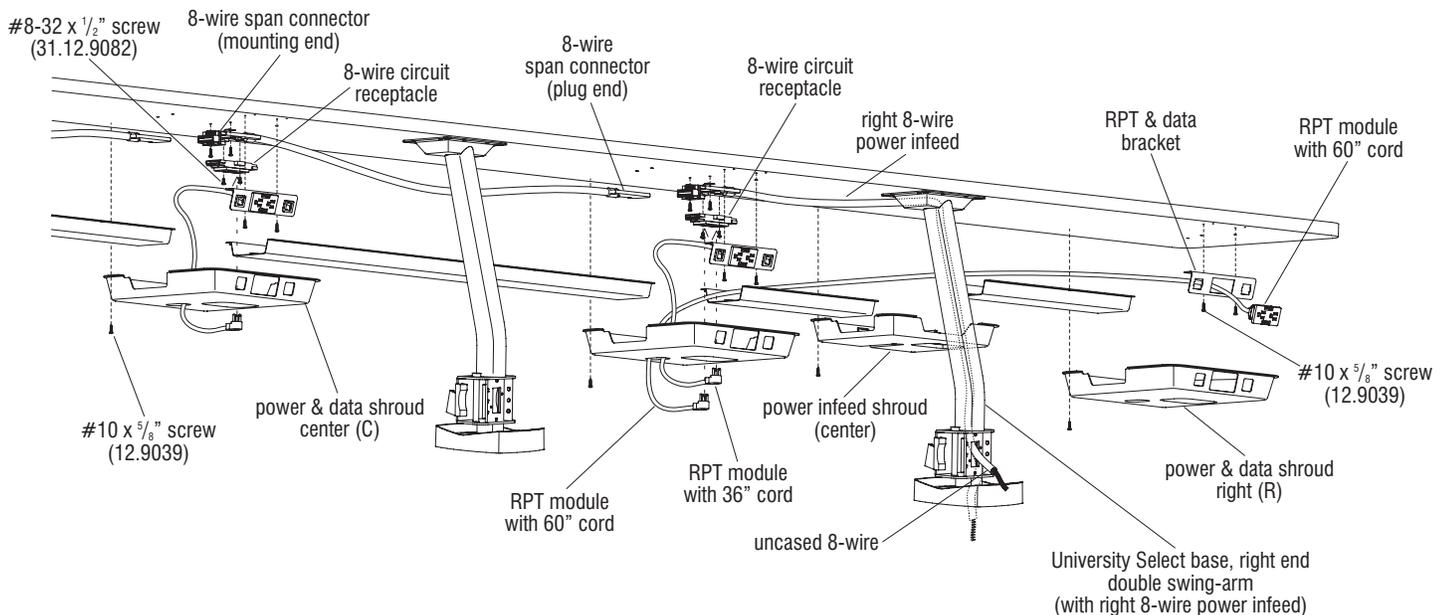

Figure 13 - Right 8-Wire Power Infeed with Double Swing-arm Ends (Power Infeed Detail)
- 35. At the underside of the University worksurface, locate the pre-drilled mounting holes, about midway between the two right-most University Select bases, near the power-infeed location (Figure 13 & Detail A, page 15). As illustrated, secure the mounting end of the right power infeed to the underside of the worksurface with two #10 x 5/8" screws at the appropriate pre-drilled holes. Torque screws to 25 in/lbs. (Figure 13, Details A & B, page 15).
underside of the worksurface using two #10 x 5/8" screws. Torque screws to 25 in/lbs. Insert and click the plug-end of a span connector into the mounting end of the power infeed. Per the space-planning layout, continue down the line installing all remaining span connector mounting ends to the worksurfaces between bases and clicking the plug ends into the appropriate mounting ends (Figures 13 & 14, Detail B, page 15).
- 37. Follow correct circuit designations and install 8-wire circuit receptacles to the mounting end of the power infeed and all 8-wire span connectors using two #8-32 x 1/2" screws provided. Torque screws to 20 in/lbs. (Figures 13 & 14, Detail B, page 15).
worksurface with two #10 x 5/8" screws and torque to 25 in/lbs (Figures 13 & 14).
- 40. Snap the appropriate style data jack adapters into the RPT & data bracket as illustrated. (See "Data Adapter Detail" on page 13 for identification of data adapter plates.) Per the space-planning layout, run data lines (customer supplied) up the appropriate base and then horizontally along the front, smaller partition of the power & data trough. Properly routed, the data lines will be separated from the line voltage flexible conduit by a divider in the power & data trough. Data line infeeds may be run up a University Select base in a different location than 8-wire power infeed, but will use a power infeed shroud the same as in power infeed locations (Figures 13 & 14). From behind the RPT & data bracket, snap the appropriate data lines into the data jack adapters.
Important: RPT & data bracket locations at the end of “double swing-arm” University worksurfaces must use a RPT Module with a 60” long cord. At all other RPT & Data bracket locations, a RPT Module with a 36” cord is to be used. Install RPT modules by first routing the cord through the opening in the RPT & data bracket, then snap the module into place. Allow 36” long receptacle cords to hang down until a later step. Take the 60” long cords and route them through the power & data trough, toward the appropriate 8-wire circuit receptacle and allow the plug end to hang down until a later step (Figures 13 & 14).
the bottom, the cut-outs facing the student, and only one cut-out at the left-hand side for a power & data trough (Figures 13 & 14).
43. Following the space-planning layout, locate the correct position for the various power & data shrouds along the run of worksurfaces. For “center” (C) shrouds, position the shroud up to the worksurface and allow the cord of the RPT module to drop down through the front-most cut-out as illustrated. Both the RPT module and data jacks, as well as the bottom-facing circuit receptacle should protrude through their appropriate cut-outs in the shrouds. For “left” (L) and “right” (R) shroud, only the RPT module and data jacks will protrude through the cut-outs. Secure all power and data shrouds to the underside of worksurfaces using #10 x 5/8” screws in pre-drilled holes at the underside of the worksurfaces and torque to 25 in/lbs (Figures 13 & 14, Details B & C, page 15).
44. At “center” (C) power & data shroud locations, loop the hanging cord and insert the plug end of the student receptacle into the bottom-facing circuit receptacle. Push any excess cord back into the shroud and out of the way.
45. At the 8-wire power infeed location, position the power infeed shroud (center, with cut-outs on each side for power & data troughs) up into position, making sure the troughs fit into it correctly and that the shroud back mates correctly with the base’s upper mounting flange. With a pencil, mark the mounting hole locations, then use a 1/8” diameter drill bit and pre-drill to 1/2” depth, taking care to not penetrate the worksurface. Install power infeed shroud using #10 x 5/8” screws provided and torque to 25 in/lbs (Figures 13 & 14).